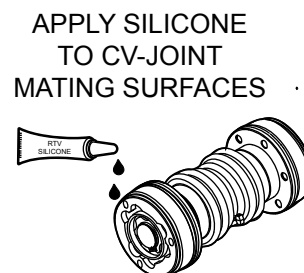

Figure 27. Applying RTF Silicone
- Apply a thin coat of RVT silicone to mating surfaces of the CV-joint (Figure 27) and left-side gearbox coupler.